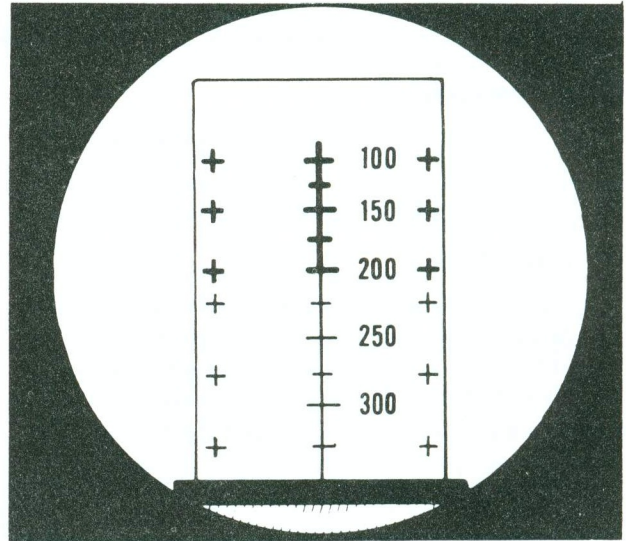

Figure 13. M72 sight reticle.
*b. Reticle Pattern.* The M72 sight reticle has a vertical center range line that is graduated in 25-meter increments (range segments) from 100 to 325 meters. On each side of the range line at ranges of 100, 150, 200, 225, 275, and 325 are lead index marks representing 15 miles per hour of target speed (fig. 13).